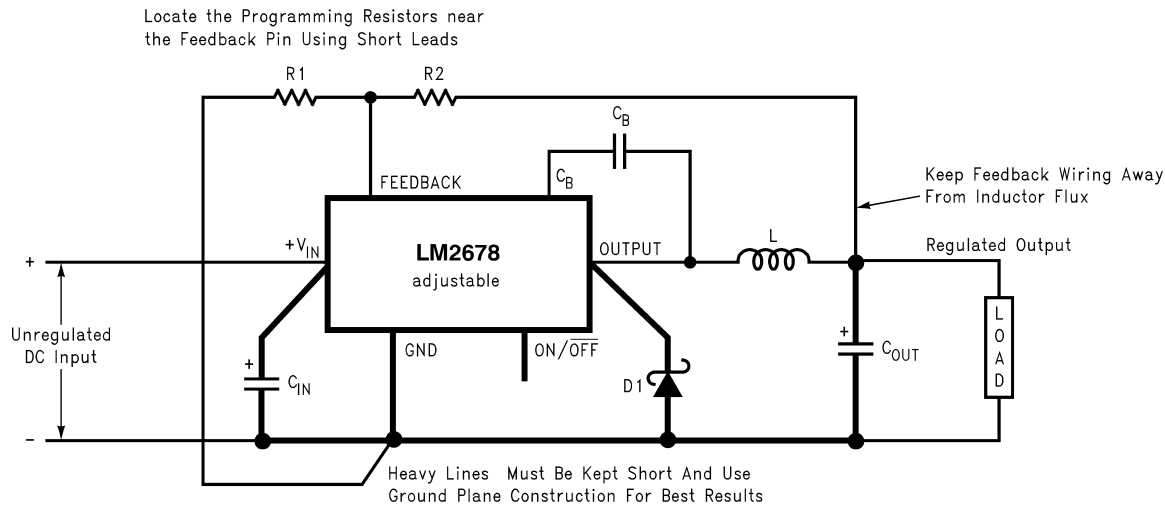

FIGURE 2. Basic circuit for adjustable output voltage applications
**Step 2:** Select an LM2678S-ADJ. To set the output voltage to 14.9V two resistors need to be chosen ( $R_1$  and  $R_2$  in *Figure 2*). For the adjustable device the output voltage is set by the following relationship: